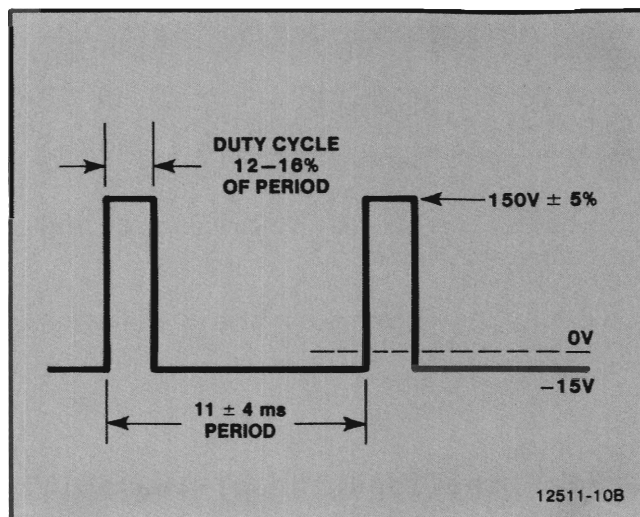

Figure 5-17. Flood Gun Anode Waveform.
5. Refer to the waveform in Figure 5-17 while the crt is in Hold mode.